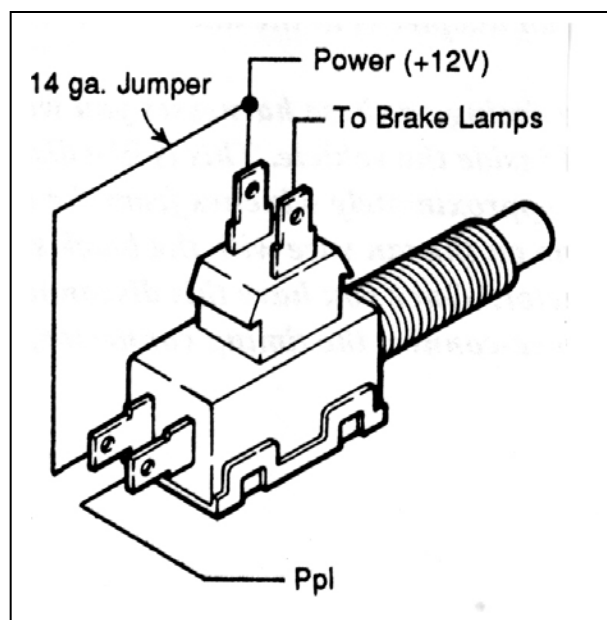

Figure 6.3 Brake Switch Connection
- F. If you are using the recommended brake switch then you will wire it according to **Figure 6.3**. The wire jumped to the back of the switch in the illustration is the wire that has power on it whether or not the brake is being applied. If you have installed your own switch then it must connect the single purple wire to power **ONLY** when the brakes are **NOT** being applied. If you are using a hydraulic brake switch see page 25 for proper wiring using a relay.